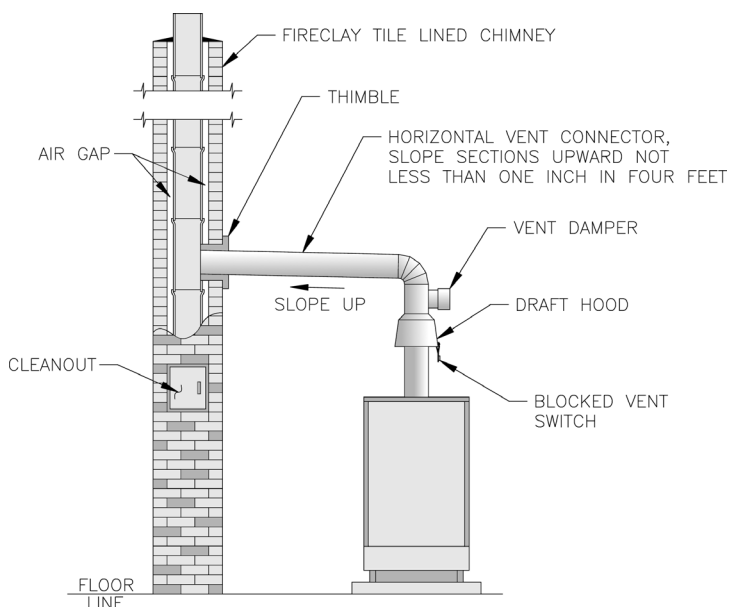

Figure 4: Typical Vent System Installations
B. Inspect Vent System (Monthly). See Figure 4.